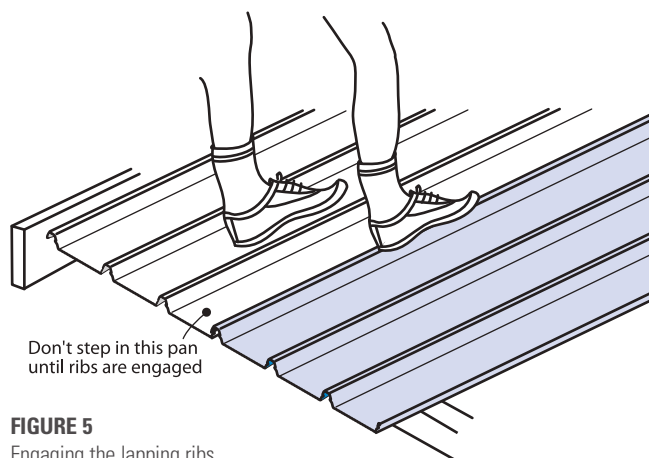

FIGURE 5
- 10 Engage the sheet with clips using vertical foot pressure on all the ribs over each clip. (Figure 5)
- 14 Fully engage the two sheets along the overlapping rib. You can do this by walking along the full length of the sheet with one foot in the centre pan of the previous sheet and the other foot applying vertical pressure to the top of the interlocking ribs at regular intervals. It is important that you don't walk in the unsupported pan beside the overlap (Figure 5)